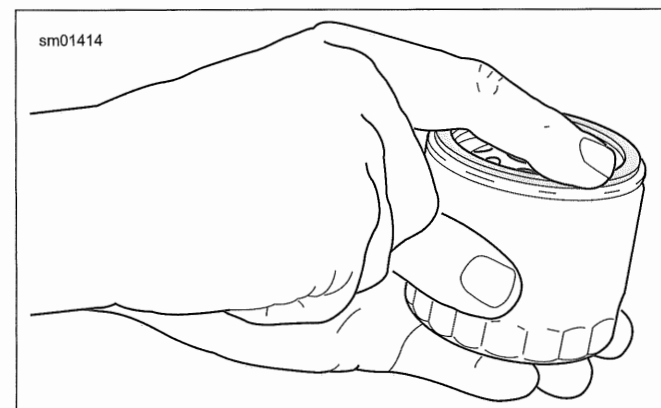

Figure 2-4. Lubricating New Oil Filter Gasket
7. See Figure 2-4. Install **new** oil filter.